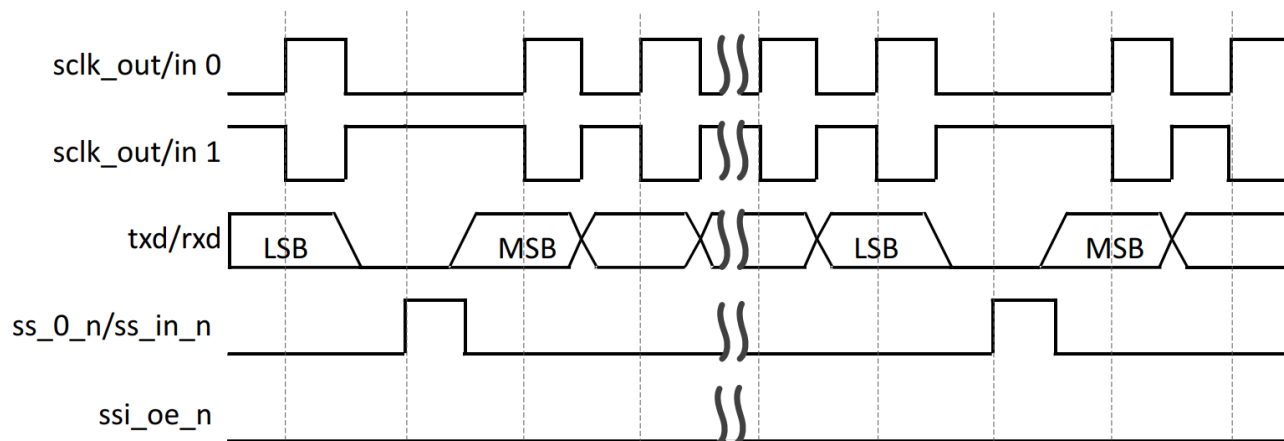

Figure 12-3-3 Serial Format Continuous Transfers ($SCPH = 0$) when CTRL0.SSTE = 1
- When CTRL0 field of the SSTE register is programmed to 1, SPI toggles the slave select signal between frames, and the serial clock is held to its default value while the slave select signal is active; this operating mode is illustrated in Figure 12-3-3